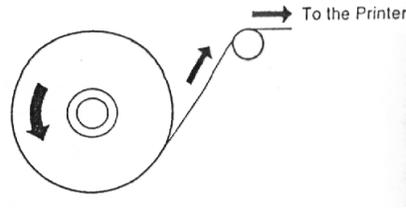

Fig.1
- a. Orient the paper roll so that it rotates in a counterclockwise direction, as shown in Fig. 1.